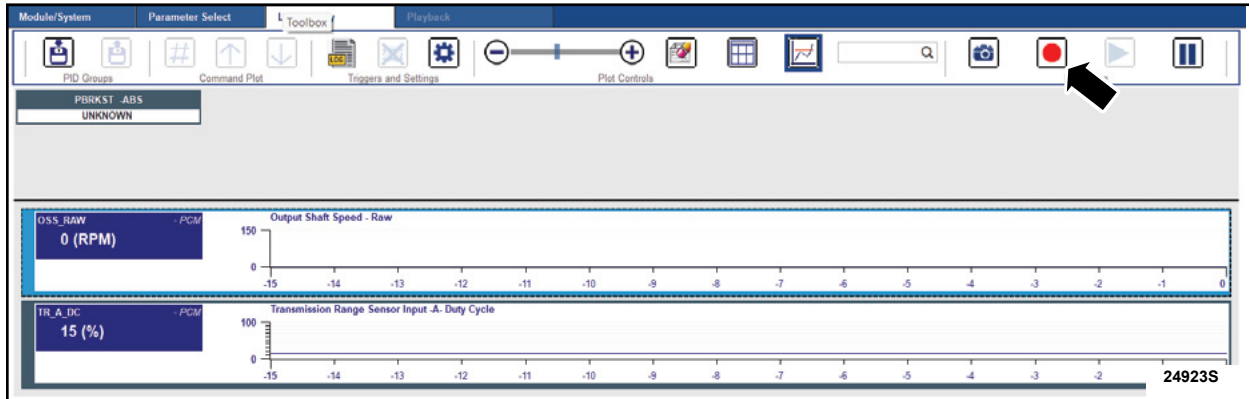

FIGURE 6
15. Click **Record**. See Figure 6.